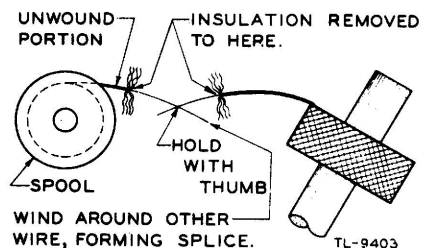

Fig 3 Method of splicing transformer winding
(6) After enough wire has been removed to reveal the break, use an ohmmeter to check for continuity in the remaining wire and also in the wire that has been unwound.
(7) If the wire has no more breaks, the next step is splicing (fig. 3). The wire is very thin and may be solid or stranded, but in either case the splice is the same. First, with very fine sandpaper, remove about two inches of insulation from the two ends to be spliced. The insulation will usually be an enamel coating and a layer of cotton wrapping. Be careful. Do not break any of the fine strands. The transformer performs better with all strands intact and connected.